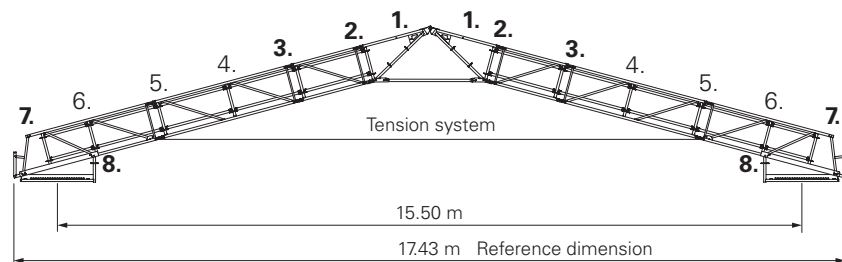
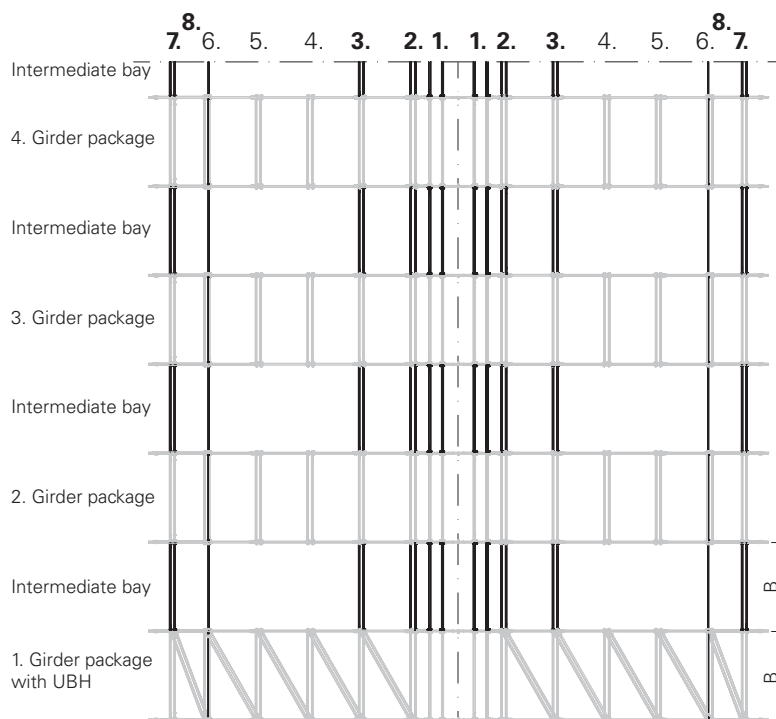

Fig. B1.02a
Fig. B1.03
- with tension system (Fig. B1.02a),
(Fig. B1.02a)
The individual girder packages are connected with horizontal ledgers. (Fig. B1.03)
The numbers in Fig. B1.02a + B1.02b refer to the suspension points of the connecting components of the intermediate bays in Fig. B1.03.